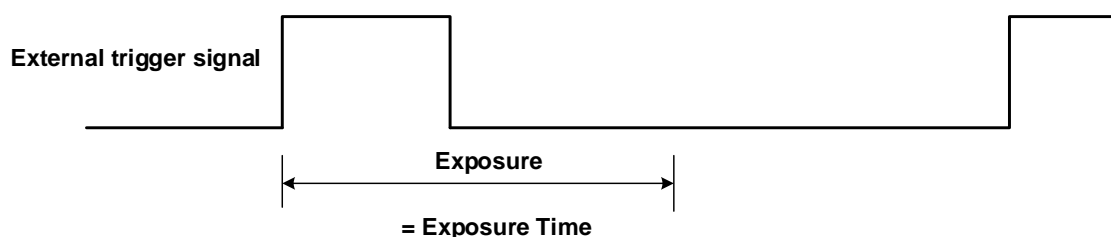

Figure 8-12 The sequence diagram in rising edge trigger of Timed exposure mode
- If rising edge triggering is enabled, exposure starts when the trigger signal rises and continues until the exposure time has expired, as shown in Figure 8-12